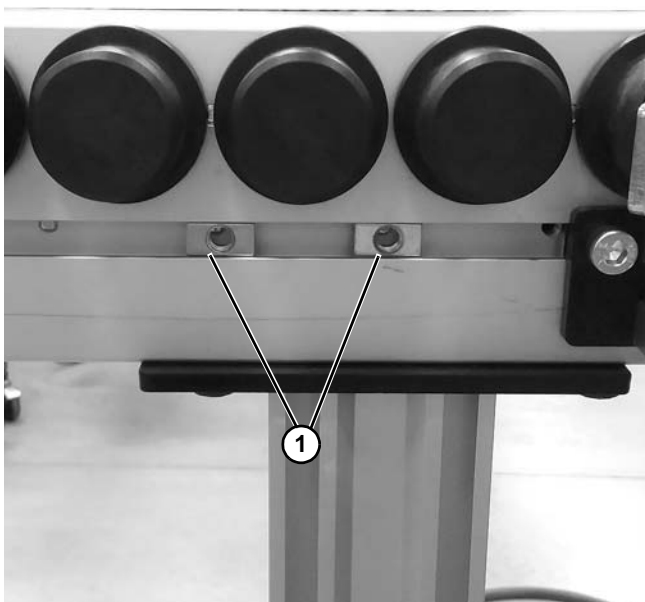

Figure 49
1. Install two spring nuts (**Figure 49, item 1**) in inner T-slot on both sides of the conveyor.